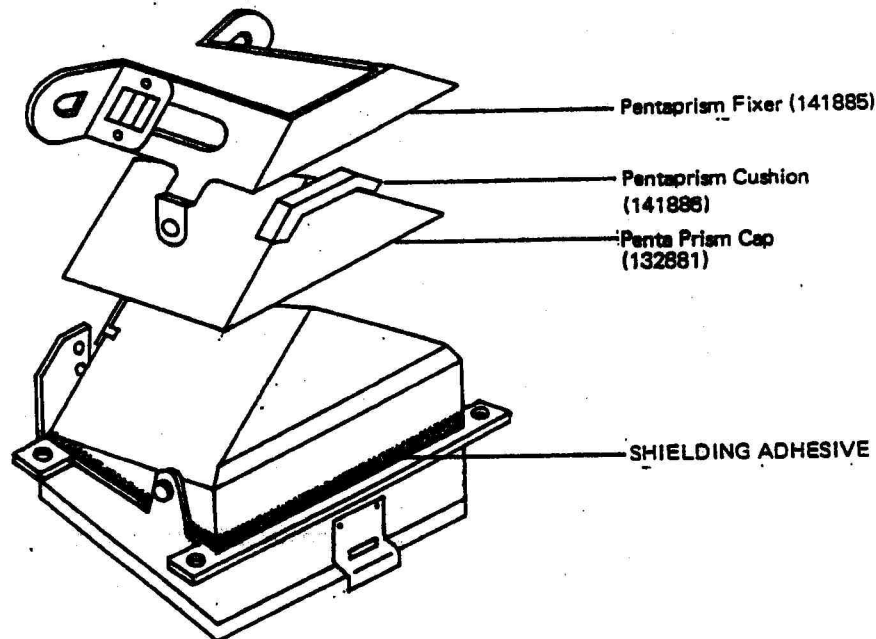

Fig. 63
- k) Remove the Pentaprism Cushion (141886) and Pentaprism Fixer (141885) shown in (fig. 63).